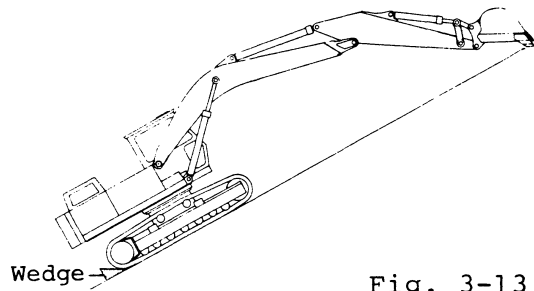

Fig. 3-13
- (d) When parking the machine on slopes even for a short period of time, land the bucket and return each control lever to the neutral position, then, put wedges to prevent the machines from slide down as shown in Fig. 3-13.